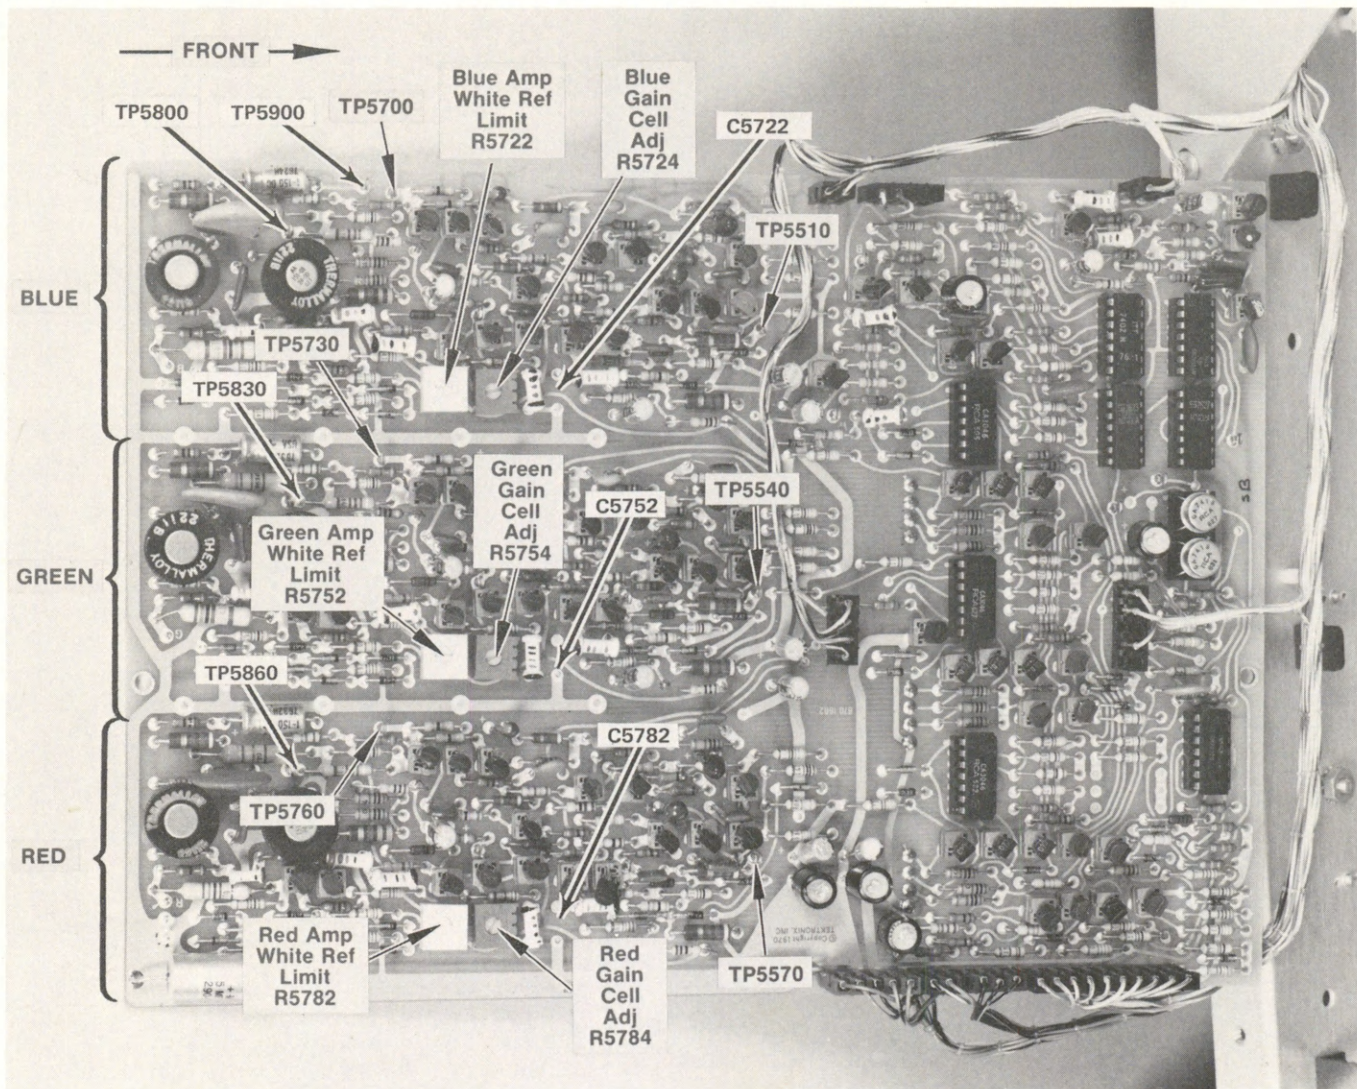

Fig. 6-13. Output Amplifier board test point and adjustment locations. (This board has been partially removed from the instrument to provide a clear view.)
b. Dc couple the oscilloscope probe to red output TP5760 (see Fig. 6-13). Use dc offset or the Vertical Position control to position the waveform onto the oscilloscope crt.
d. ADJUST—Red Amp White Ref Limit R5782 (see Fig. 6-13) to limit the waveform as described in part c of this step.
f. Dc couple the oscilloscope probe to TP5570 (see Fig. 6-13). Check that the CONTRAST control is set fully clockwise.
b. Dc couple the oscilloscope probe to blue output TP5700 (see Fig. 6-13). Use dc offset or the Vertical Position control to position the waveform onto the oscilloscope crt.
b. CHECK/ADJUST—Blue Amp White Ref Limit R5722 and Blue Gain Cell Adj R5724 using parts b through j of step 10 as a guide. Use TP5510 (see Fig. 6-13) when performing parts f through h of step 10; use TP5700 when performing part i.
b. Dc couple the oscilloscope probe to green output TP5730 (see Fig. 6-13). Use dc offset or the Vertical Position control to position the waveform into view on the oscilloscope crt.
b. CHECK/ADJUST—Green Amp White Ref Limit R5752 and Green Gain Cell Adj R5754. using parts b through j of step 10 as a guide. Use TP5540 (see Fig. 6-13) when performing parts f through h of step 10; use TP5730 when performing part i.